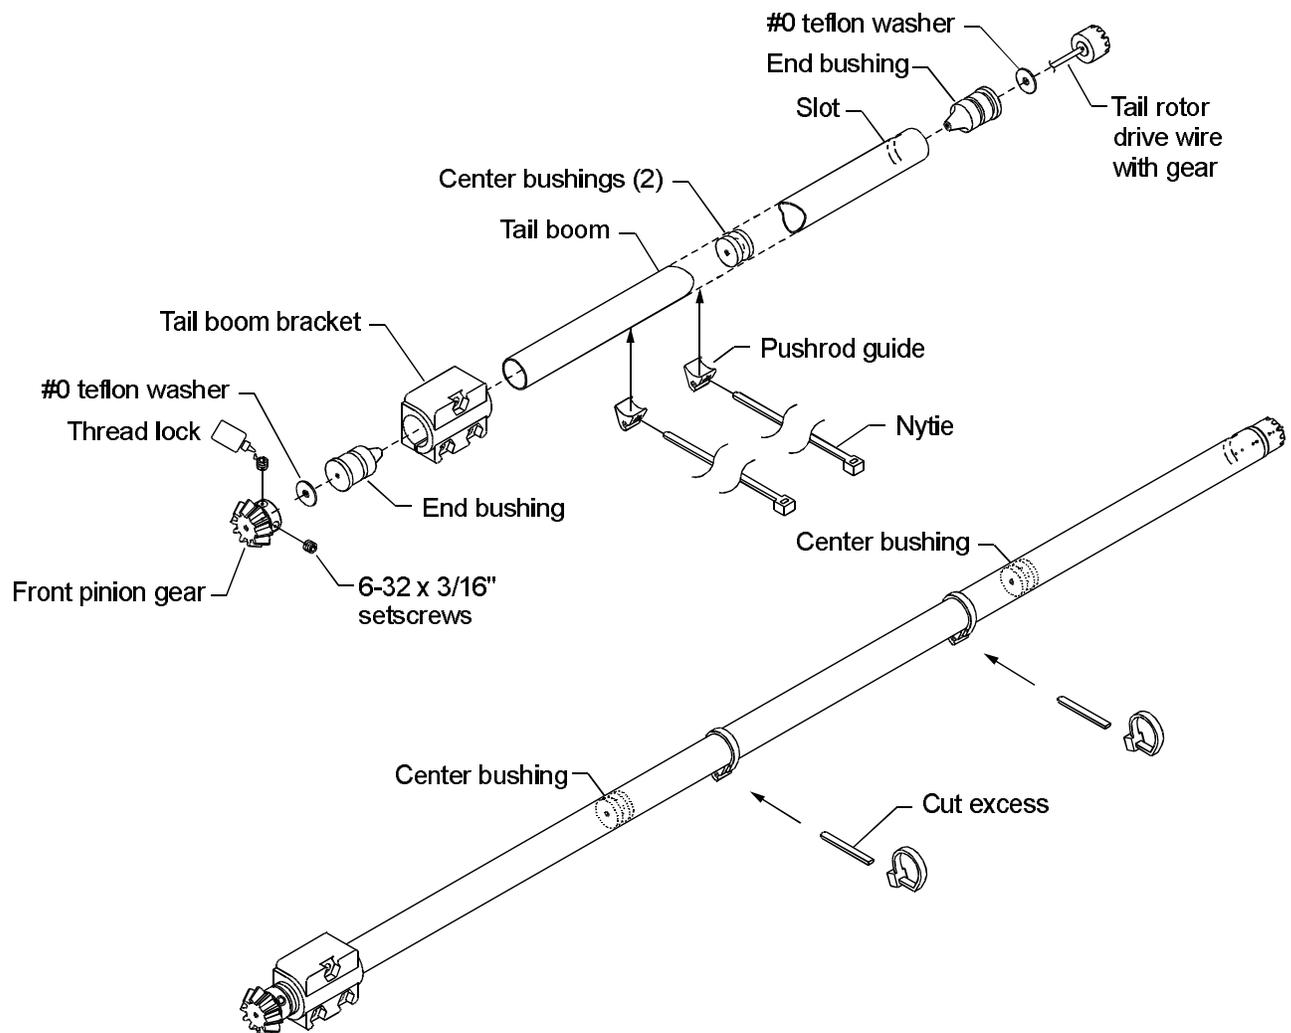

Figure 9-1.
- 1. Fill the center holes of all plastic tail boom bushings with oil. Push one center-bushing about 6" (150mm) down each end of the tail boom with a pencil (refer to Fig. 9-1). Note that the center bushings are tapered and will go into the tail boom in only one direction. Cap each end of the tail boom with an end-bushing.
- ❑ 2. Slide the tail boom mounting bracket onto the front of the boom as shown in Fig. 9-1 with the double bolt holes positioned below the boom.